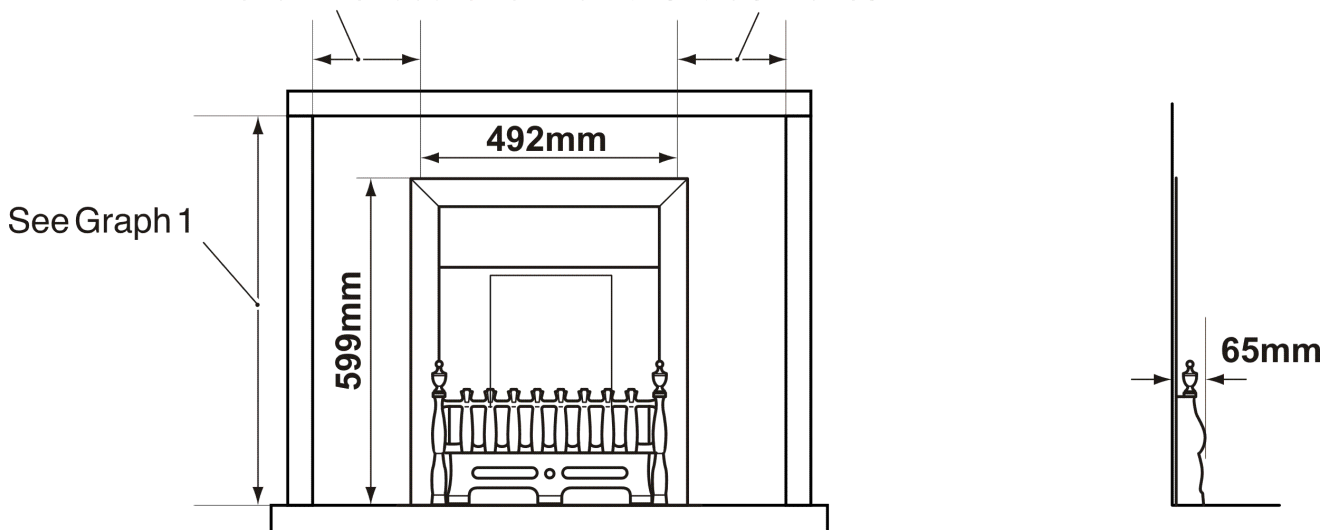

Figure 1. Appliance dimensions
**Do** provide a minimum side clearance as detailed in figure 1. Please bear this in mind if ever you are considering altering the room.